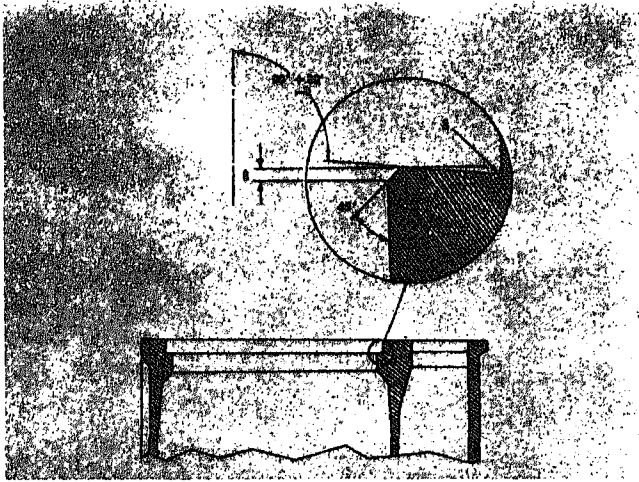

Fig. 1-1-18. Cylinder liner counterbore cross section
- a. A correctly ground tool bit will leave counterbore surface complete flat or cupped to a 30-minute angle (the cup preferred) with a 0.005/0.015 in. [0.1270/0.3810 mm] radius as shown in (A Fig. 1-1-18).
Chamfer edge of counterbore ledge 45 degrees after counterboring. See (B Fig. 1-1-18). Do not chamfer deeper than 0.002/0.005 in. [0.0508/0.1270 mm]